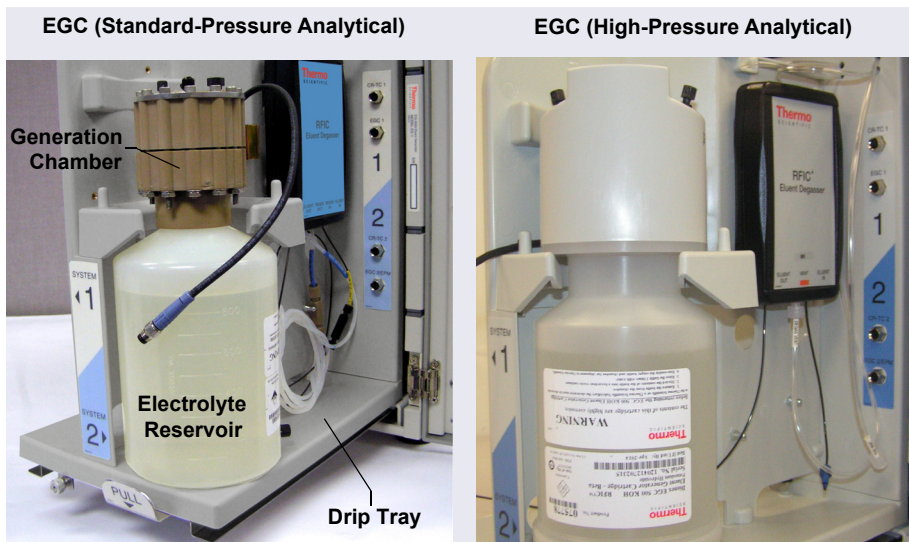

Figure 10-18. *Dionex EGC Service Position*
7. Turn the Dionex EGC upside down and place it on the EG drip tray (see Figure 10-18). This is the “service position” for the cartridge.
1. Hold the cartridge with the eluent generation chamber (see Figure 10-18) on top. Unscrew the eluent generation chamber from the electrolyte reservoir and pour the remaining electrolyte solution into an appropriate hazardous waste container.